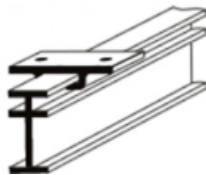

Fig. 1
5. Slide brackets onto the top of the track and mount the brackets to the ceiling using screws (Fig. 1). Space brackets every 12-18 inches. To reduce movement of the track within the bracket, rotate the bracket slightly to lock the track in place.